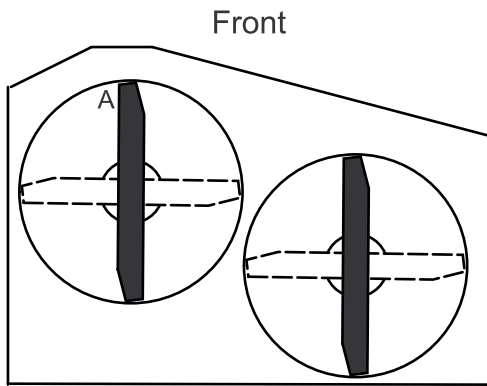

Figure 63
3. With the machine on level surface, position one blade front-to-rear. Measure at **A** and from level surface to the cutting edge of the blade tips (Figure 63).